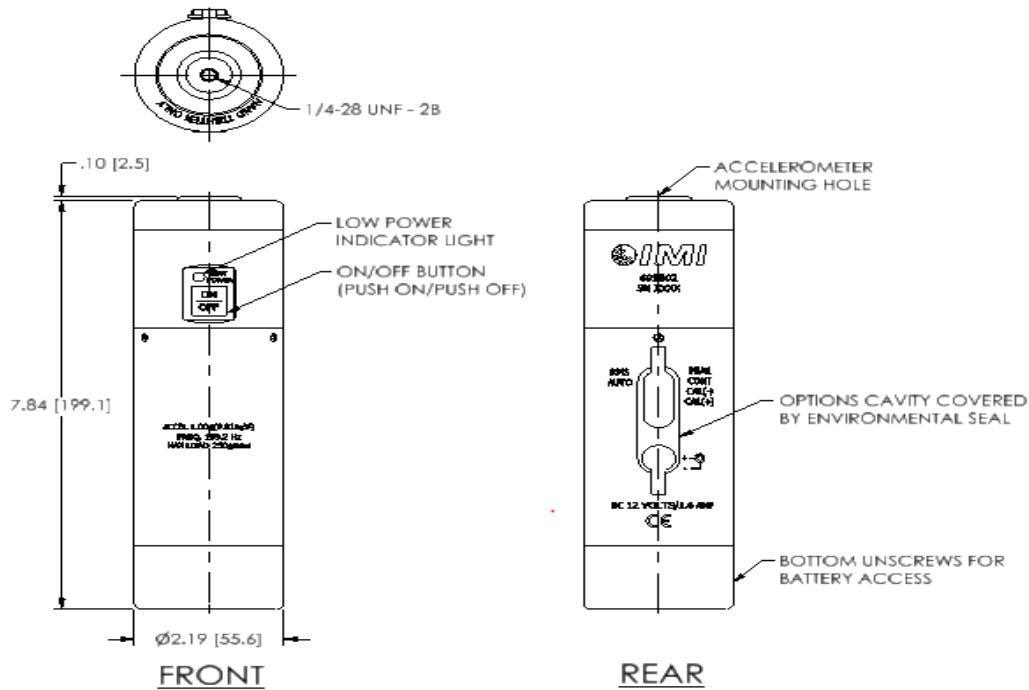

Figure 1: Model 699B02 Handheld Shaker
Model 699B02 permits accurate adjustment of measuring instrumentation to indicate a standard acceleration level of 1 g RMS or 1 g peak, adjusting the system for correct measurement. The reference signal may also be used for velocity and displacement, at 10 mms^{-1} RMS or 10 mms^{-1} peak and $10 \mu\text{m}$ RMS or $10 \mu\text{m}$ peak-to-peak respectively. To change between RMS and peak, depress the corresponding side of the rocker switch in the options cavity of the shaker. For example, to choose RMS, depress the left side of the rocker switch as per Figure 1.
Connect the accelerometer to the vibration level indicating instrument and activate the shaker by pushing the On/Off button on the side of the shaker. See Figure 1.
The indicating instrument may now be adjusted to read the relevant reference value. Following the system adjustment, the shaker is switched off by pressing the On/Off button a second time. To prolong the useful life of the batteries, Model 699B02 automatically switches off after 90 seconds. With new batteries, 80 sensitivity checks with maximum load are possible. To change between auto shutoff and continuous run, depress the corresponding side of the rocker switch in the options cavity of the shaker. For example, to choose auto shutoff, depress the left side of the rocker switch as per Figure 1.
- **Calibration Check Points:** Calibration of the internal feedback circuit can be verified via test points (located in the options cavity). See Figure 1. The measured value in volts AC should agree with the calibration certificate. This is useful for quick field check of unit integrity, such as that which might be needed if the shaker is dropped and a reference standard is not immediately available. This test is not a guarantee of shaker function. If the data does not agree with expected values, the shaker should be checked with a calibration standard before continued use.
- **Low Power Indicator:** A low power indicator light is located above the On/Off switch. See Figure 1. This light glows when the available power is marginally adequate to drive the shaker (with the mass on the shaker). This indicator does not signify erroneous data. If Model 699B02 cannot obtain 1 g at 159.2 Hz, then the unit shuts off. The low power indicator signifies an imminent inability to drive the mass on the shaker because the test sensor is too heavy, the batteries are low on power or the external power supply is inadequate.